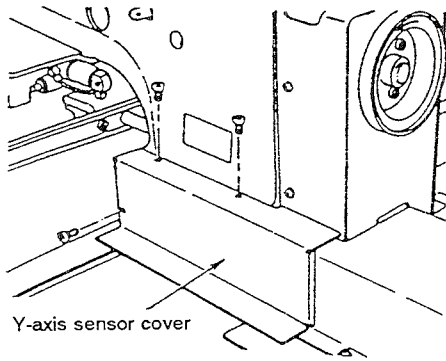
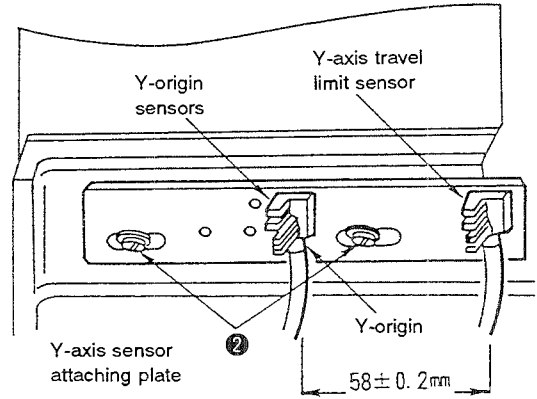
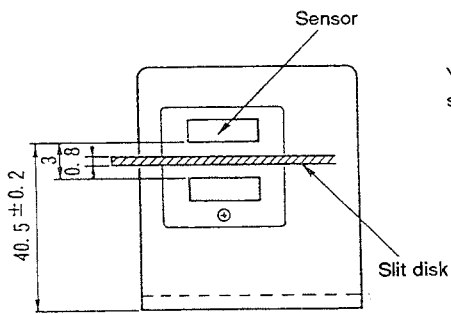

Fig. 5-33-8
Fig. 5-33-9
Fig. 5-33-10
<p>B. Adjusting the Y-axis origin and travel limit</p> <ol style="list-style-type: none"> 9) Remove the Y sensor cover. (Fig. 5-33-8) 10) Follow the same procedure described in steps 2) and 3). 11) Loosen setscrews ①, and move the Y sensor attaching plate to the left or right until display (H) showing the Y origin changes from 1 to 0. Immediately after the display has changed, tighten setscrews ①. (Fig. 5-33-3, Fig. 5-33-9) 12) Press jog key  on the operation panel to move the feeding frame until display (I) showing the travel limit *3 changes from 1 to 0. Immediately after the display has changed, stop the feeding frame. (Fig. 5-33-3) 13) Make sure that a gap between the sensor and the needle tip is 1.5 mm or less in terms of the marker line V of travel limit *3. 14) With regard to display (G) showing travel limit *4, press jog key  and make the adjustment referring to the procedure described in step 12). 15) With regard to marker line V of travel limit *4, make sure that the specified distance is obtained referring the procedure described in step 13). <p>[Caution] After making the adjustments, make sure that the Y-axis slit disk enters the center of the clearance between the sensor photo-couplers and that the slit disk overlaps the top end of the sensor photo-coupler by 5 mm or more, when the Y-axis slit disk passes through the two Y-axis sensors. If they do not, adjust the clearance between the slit disk and the photo-coupler referring to "C. Clearance between the slit disk and the photo-coupler."</p>
<ul style="list-style-type: none"> ○ Adjusting the X sensor Respectively position the X travel sensors (right) and (left) so that they work when the feeding frame moves to the right and left by 92 mm. Then, fix them with screws ❶. (Figures 5-33-10 and -11) ○ Adjusting the Y sensor If the Y slit plate and photo-coupler do not overlap as deep as 5 mm or more, loosen screws ❸ and adjust the Y slit fixing plate. After the adjustment, fix it with the screws. Adjust the Y origin using screws ❷. (Figures 5-33-9 and -11) Adjusting the origin automatically determines the position of the Y travel limit sensor. <p>[Caution] Make sure that the slit disk does not come in contact with the photo-coupler.</p>	<ul style="list-style-type: none"> ○ The sensors fail to detect the X/Y origin or travel limits, resulting in the same problems caused by the improper adjustment of the origin or travel limits. ○ Since the slit disk may come in contact with the photo-coupler, the corresponding parts could become broken or damaged.